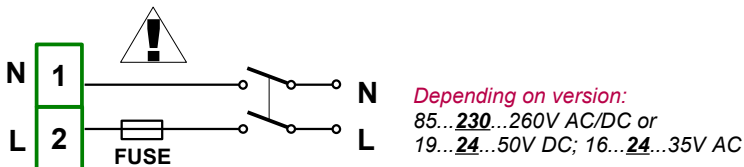

Fig. 4.6. Connection of power supply
- The unit is not equipped with an internal fuse or power supply circuit breaker. Because of this an external time-delay cut-out fuse with a small nominal current value must be used (recommended bipolar, max. 2A) and a power supply circuit-breaker located near the unit (**Fig. 4.6**). In the case of using a monopolar fuse it must be mounted on the active wire (L).